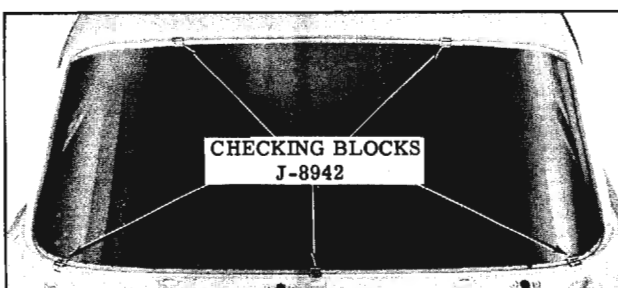

Fig. 16-209 Body Windshield Opening
- Install five (5) windshield checking blocks #J-8942 to pinchweld flange. (Fig. 16-209) Position one block over lower pinchweld flange on each side of body approximately twelve inches (12") inboard from the lower outer corner of the opening. Position final block on lower pinchweld flange in center of windshield opening. Position one block over upper pinchweld flange midway between center block and each outboard block on lower retaining flange.